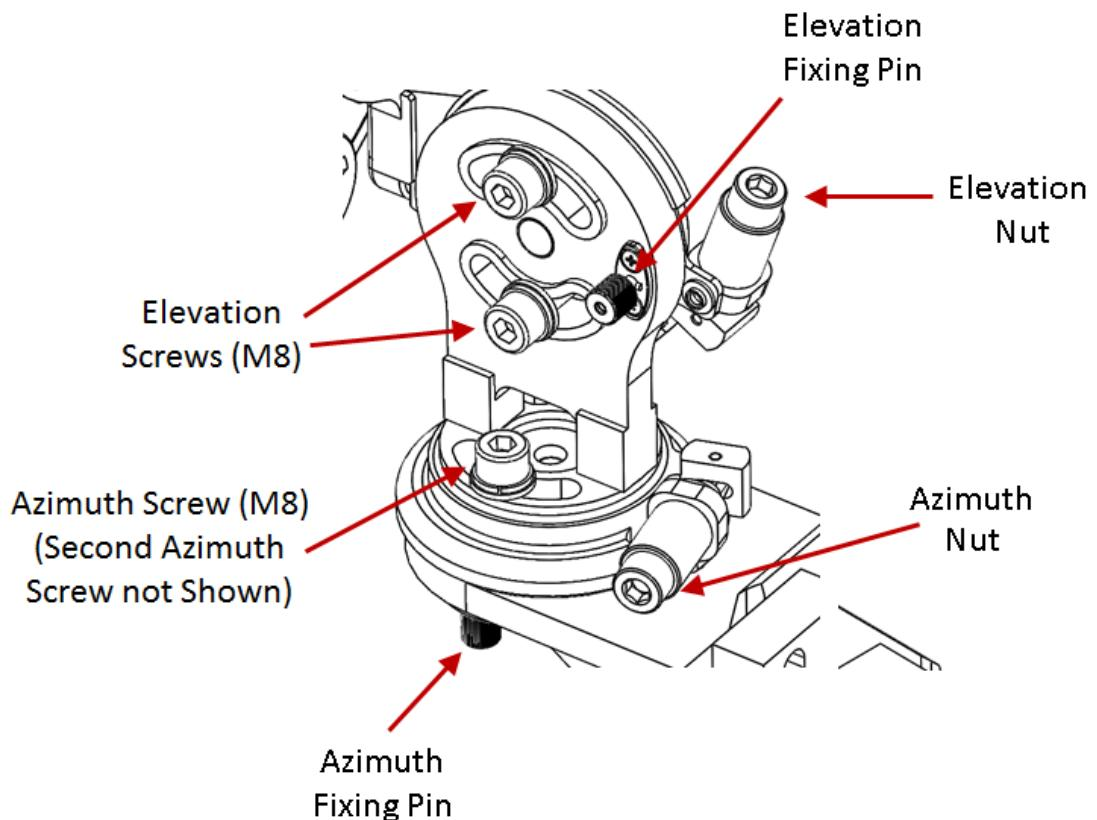

Figure 15: Installation and Alignment Device – Azimuth and Elevation Adjustment Tools
There are two M8 Elevation Screws and two M8 Azimuth screws, as shown in *Figure 15*. Before starting the alignment, make sure these screws are securely in place so they will not fall out during the procedure, but not too tight, so as to enable you to manually adjust the azimuth and elevation to the approximate position you want, before performing exact antenna alignment as described in the following sections.
You can easily adjust the azimuth and elevation of the antenna using a number of screws and nuts located on the installation and alignment device (*Figure 15*).
- 1 Loosen the Azimuth Fixing Pin (*Figure 15*) by pulling it gently out of its groove and rotating it 90° counter-clockwise..
- 1 Loosen the Elevation Fixing Pin (*Figure 15*) by pulling it gently out of its groove and rotating it 90° counter-clockwise.